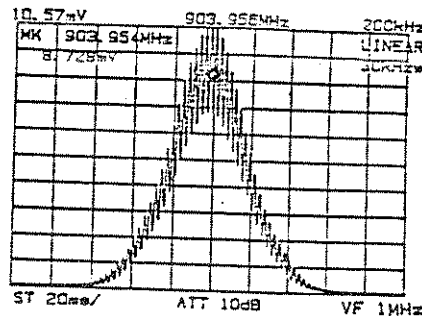

Figure 5-4 Setting the Ordinates Axis Scale to LINEAR
⑤ Press the REFERENCE LEVEL key and set the marker (the peak of the measured signal) to the reference level.
⑥ Press the SHIFT, COARSE FINE key and set the ordinates axis scale to LINEAR (Figure 5-4).